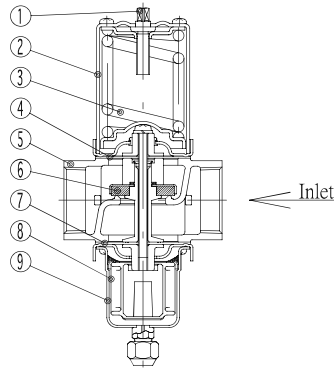

Fig. 1 Sectional View AWR-3212GLW
In Fig. 1, system pressure contracts the bellows ⑧ and the valve disk ⑥ moves upwards resisting to spring ③. Cooling water in the body ⑤ flows in direction of arrow on the body when pressure in the bellows cap ⑨ increases.